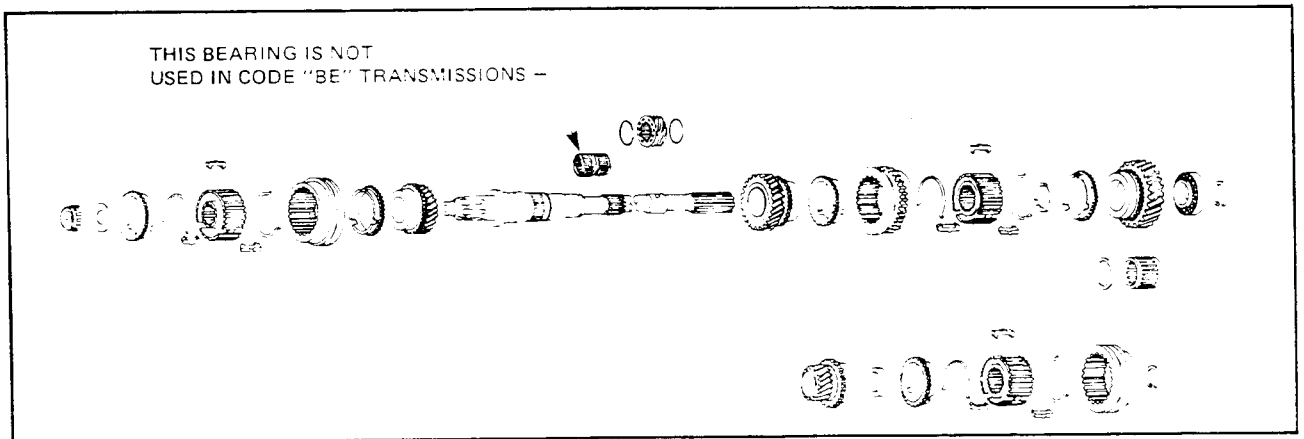

Figure 7B-1
2. 5TH SPEED MAINSHAFT GEAR: needle roller bearing has been deleted (refer Fig. 7B-1). The gear now rotates on a revised bearing surface on the mainshaft.